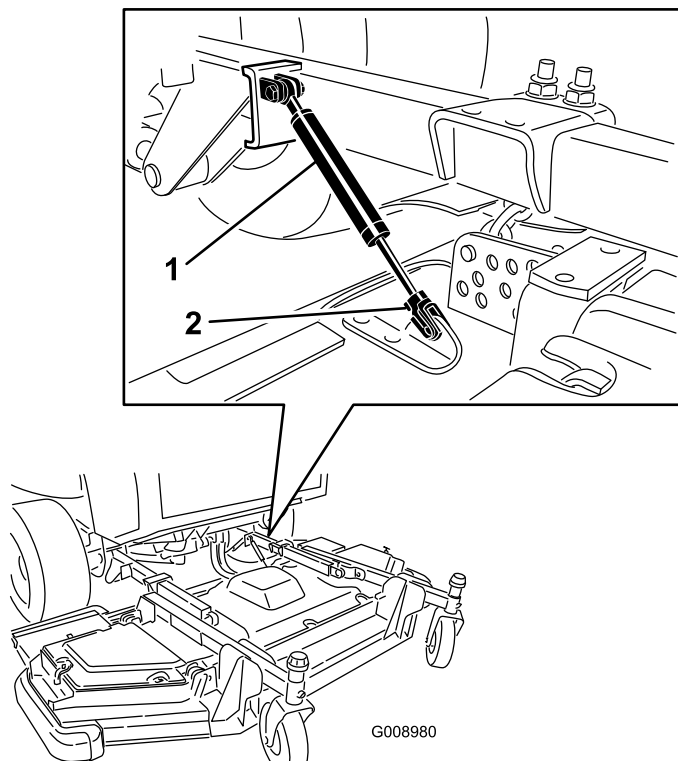

Figure 87
2. Remove the retainer clip and disconnect the damper assembly from the cutting unit (Figure 87).